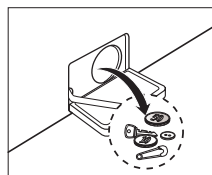

Fig. 14
- Remove foreign objects/fluff from inside and clean the interior.(Fig.14)